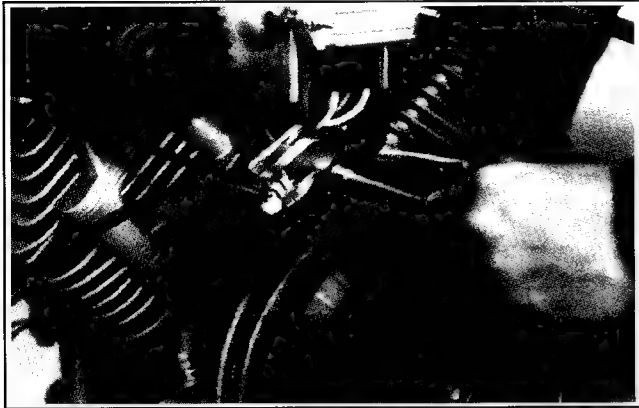

Figure 9-15. Removing Ignition Modules (#1 Side Shown).
3. Remove the two hex. flange mounting screws from each module and remove both modules. See Figure 9-15.